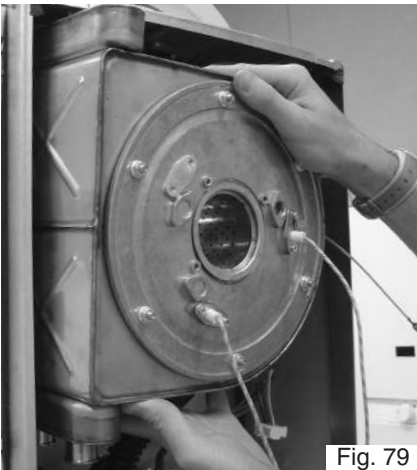

Fig. 79
6. Remove the heat exchanger from the boiler by sliding it forwards. (Fig. 79);